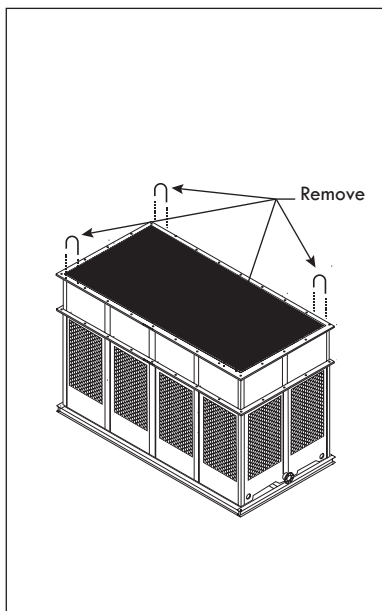
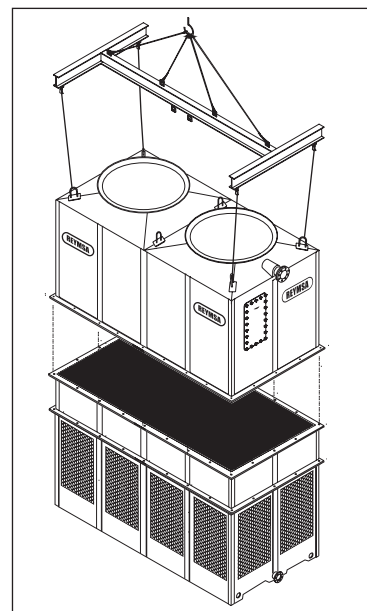

Figure A-57: Removing U-bolts from Lower Body section of a Modular Tower (RTM-D)
Figure A-58: Upper body section assemble for a Modular Tower (RTM-D)
- K. **Only for RTM-D models:** Remove U-bolts from Lower Body section before installing the next section (see Figure A-57). Place Upper Body section #1 on top of Lower Body section #1, making sure that the bolt holes are aligned (see Figure A-58). Bolt down and secure the horizontal flanges with the stainless steel nut and bolt sets supplied by REYMSA.